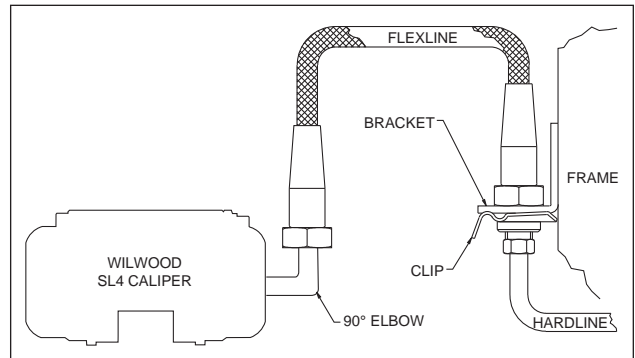

Figure 4. Brake Line Diagram
- Remove the caliper center bridge pad retainer bolt, nut, and tube from the caliper. Insert the brake pads (12) into the caliper, with the friction material facing the rotor, as shown in Photo 4. Check that the top of the brake pad is flush with the outside diameter of the rotor, Photo 5. If not, adjust by adding or subtracting shims (11) between the caliper and the bracket. After the caliper pad height is set, reinstall the center bridge pad retainer tube, bolt, and lock nut. The lock nut should be snug without play in the bolt or tube. Be cautious not to over tighten. Torque the caliper lock nuts (8) to 30 ft-lb.
- NOTE:** *The caliper in this brake kit utilizes a 1/8-27 NPT pipe thread inlet. OEM rubber brake hoses generally cannot be adapted to Wilwood calipers. Wilwood offers a brake flex line hose kit to fit this application, order P/N 220-8177 for C5, or 220-9101 for C6 (NOT included in kit), see Figure 4. Hose kit includes hoses, fittings, etc., all in one package for this application. **Carefully route hoses to prevent contact with moving suspension, brake or wheel components.** **NOTE:** *Wilwood hose kits are designed for use in many**